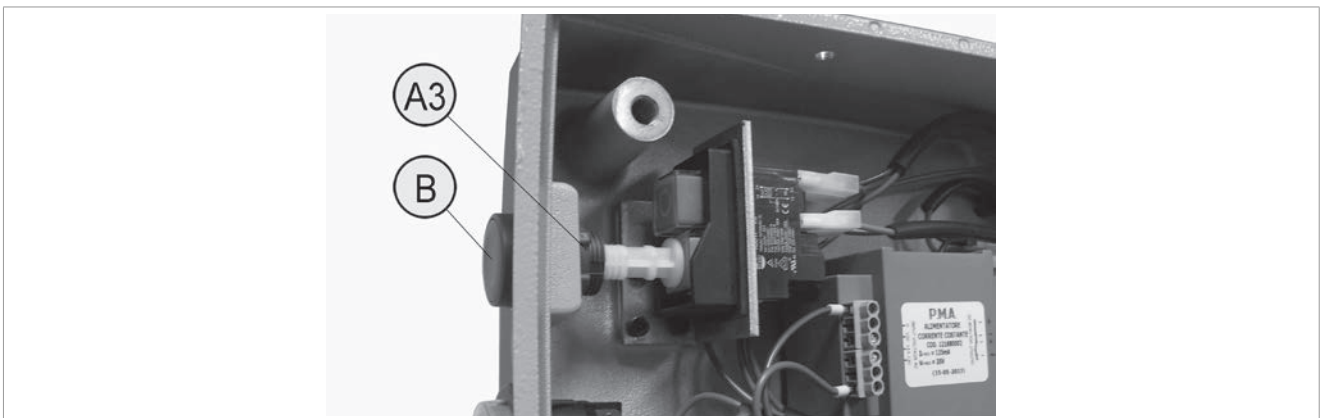

Fig.68
- 2) Loosen the ring nut (A3) and remove the motor start button (B) (Fig.68).